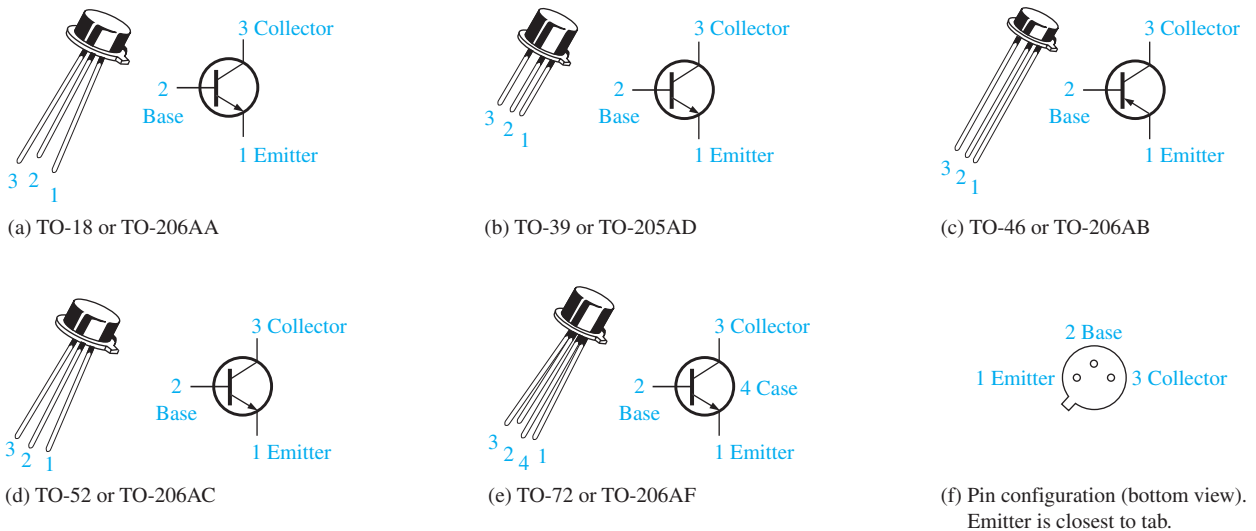

FIGURE 3–51 Metal cans for general-purpose/small-signal transistors.
GENERAL-PURPOSE/SMALL-SIGNAL TRANSISTORS General-purpose/small-signal transistors are generally used for low- or medium-power amplifiers or switching circuits. The packages are either plastic or metal cases. Certain types of packages contain multiple transistors. Figure 3–50 illustrates common plastic cases, Figure 3–51 shows packages called *metal cans*, and Figure 3–52 shows multiple-transistor packages. Some of the multiple-transistor packages such as the dual-in-line (DIP) and the small-outline (SO) are the same as those used for many integrated circuits. Typical pin connections are shown so you can identify the emitter, base, and collector.
FIGURE 3–50 Plastic cases for general-purpose/small-signal transistors. Both old and new JEDEC TO numbers are given. Pin configurations may vary. Always check the data sheet.
POWER TRANSISTORS Power transistors are used to handle large currents (typically more than 1 A) and/or large voltages. For example, the final audio stage in a stereo system uses a power transistor amplifier to drive the speakers. Figure 3–53 shows some common package configurations. In most applications, the metal tab or the metal case is common to the collector and is thermally connected to a heat sink for heat dissipation. Notice in part (g) how the small transistor chip is mounted inside the much larger package.